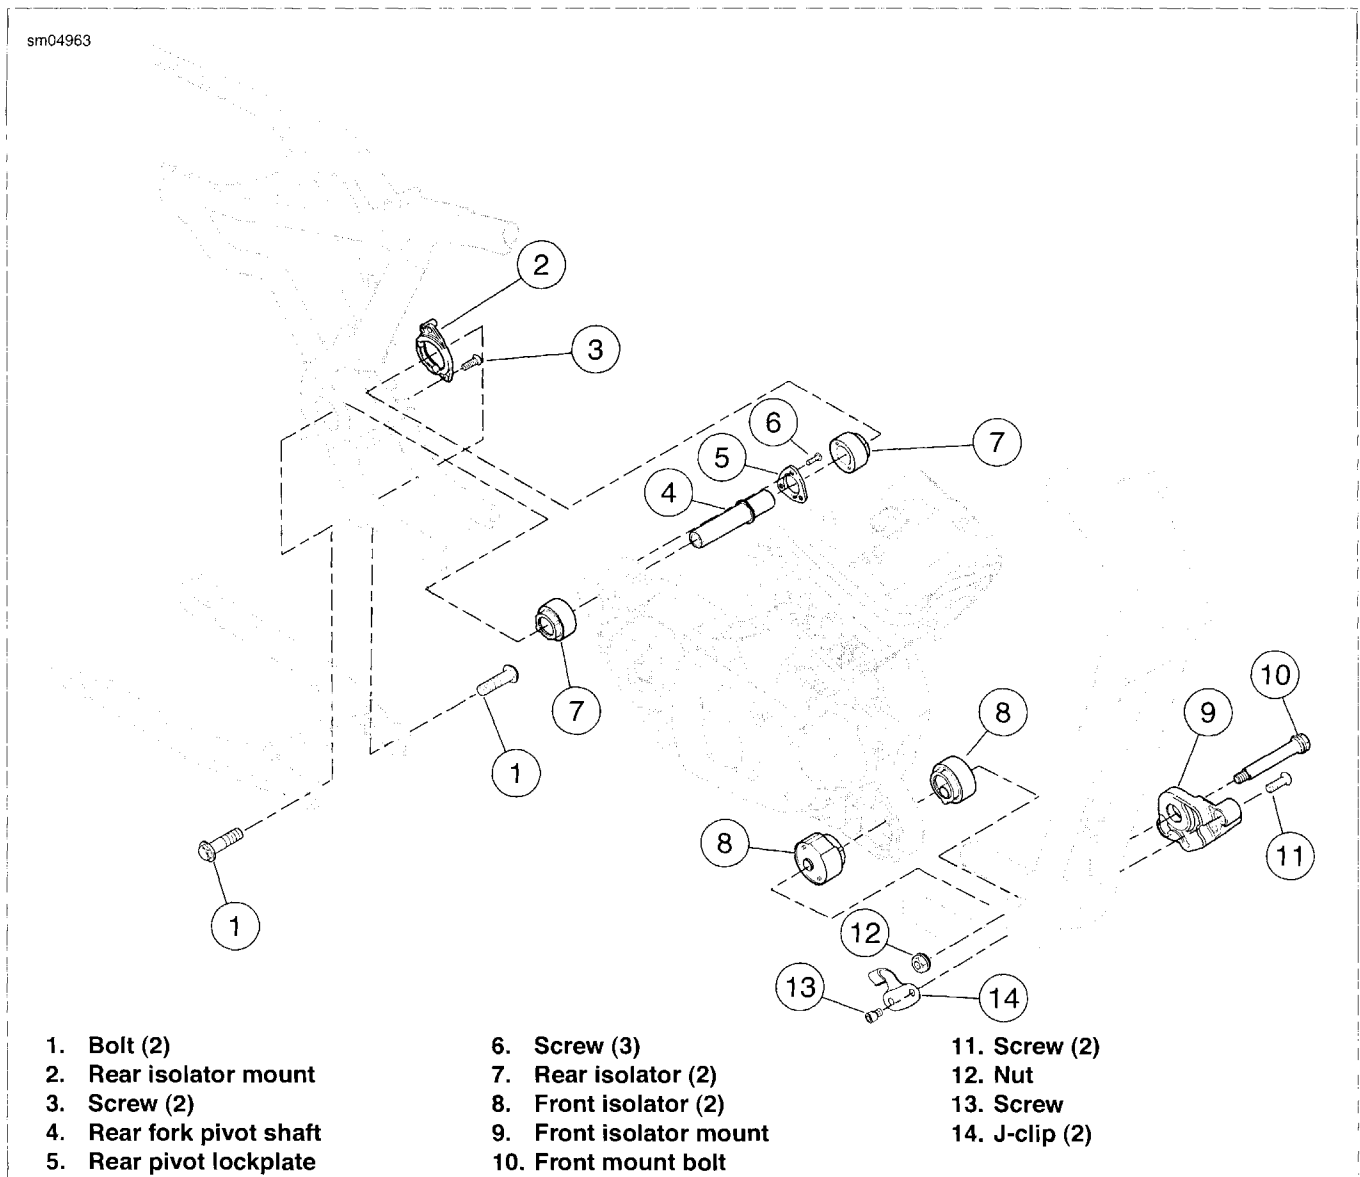

Figure 3-27. Engine Mount/Isolator Components (typical)
36. See Figure 3-27. Remove fasteners (13) and j-clip (14) from each side of frame.
37. Loosen, but do not remove, two front isolator mounting bracket screws (11) on left side of engine.
38. Loosen, but do not remove, two rear isolator mounting bracket screws (3) on left side of engine.
40. Remove front engine mount bolt (10) and nut (12).
41. Remove two screws (11) and front isolator mount (9).
42. Remove two rear engine mount/rear fork pivot bolts (1). Pull rear fork back until fork pivot bosses clear the frame.
44. Remove two screws (3) and rear isolator mounting bracket (2) from frame.
1. See Figure 3-27. Make sure pivot shaft (4) and rear pivot lockplate (5) are mounted on engine mounting boss at rear of engine. Position right rear isolator (7) on pivot shaft on rear of engine. Do not install left rear isolator at this time.
2. Position right front isolator (8) on front of engine. Do not install left front isolator at this time.
5. Install left rear isolator (7) over pivot shaft (4). Install rear isolator mount (2) over left rear isolator and attach to frame with two screws (3). Do not tighten screws at this time.
7. Install left front isolator (8) and front isolator mount (9) to left side of frame with two screws (11). Do not tighten screws at this time.
8. Insert front engine mount bolt (10) from left side, through isolators and crankcase boss. Place nut (12) on bolt but do not tighten at this time.
9. Tighten two screws (11) securing front isolator mount (9) to 25-35 ft-lbs (33.9-47.5 Nm).
10. Tighten two screws (3) securing rear isolator mount (2) to 25-35 ft-lbs (33.9-47.5 Nm).